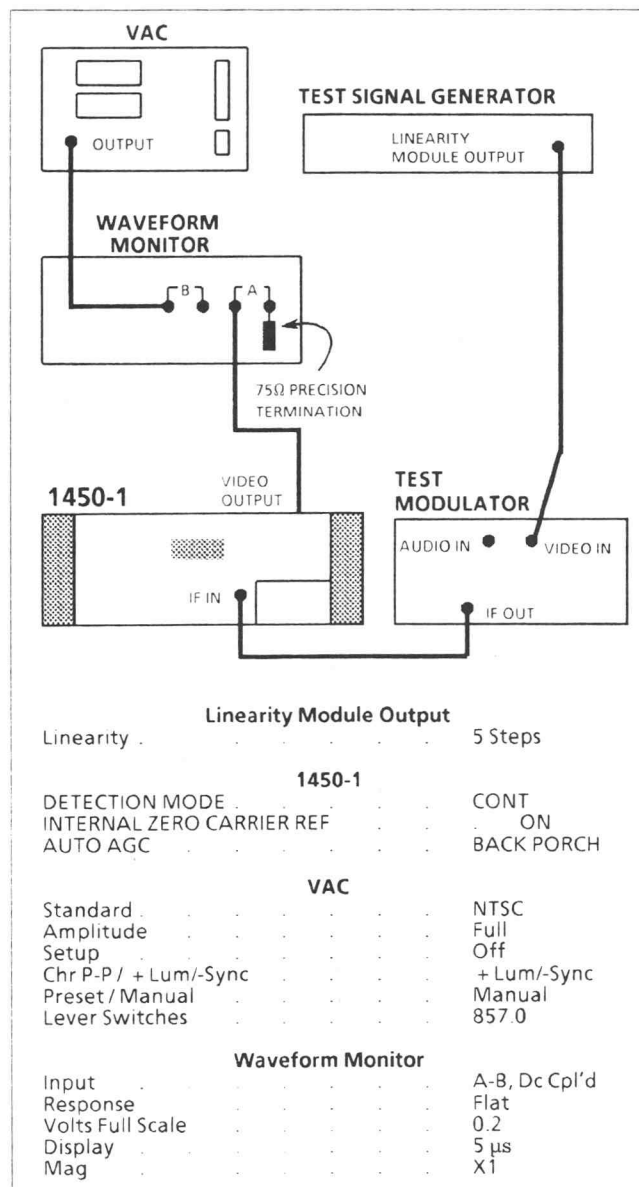

Fig. 4-56. Setup for adjusting video levels.
- Connect and set the test equipment as shown in Fig. 4-56.
- Connect and set the test equipment as shown in Fig. 4-56 with the following exceptions:
- (1) Set the 1450-1 AGC to SYNC TIP.